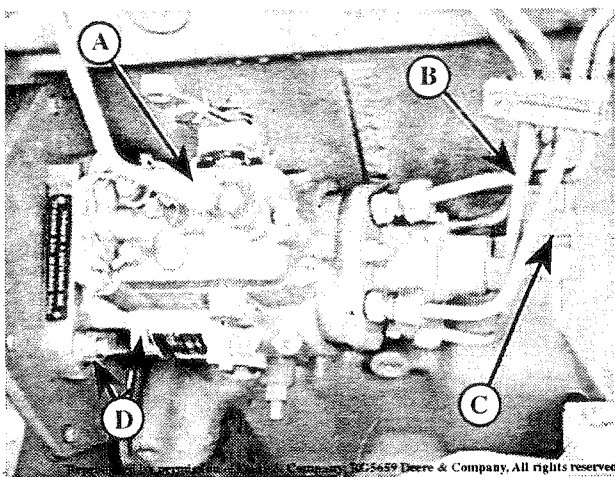

Figure 15.
3. Disconnect fuel return line (Fig. 15,A) and fuel supply line (C).
4. Disconnect all fuel delivery (pressure) lines (Fig. 15,B) from injection pump using a suitable 17mm deep-well crowsfoot socket.